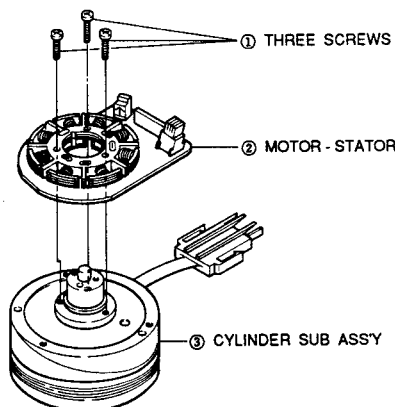

Fig. 17 Motor Stator Removal
- 1) Reinstall the motor stator ① toward the FPC cable of cylinder sub ass'y ②.
- 2) Secure with three(3) screws. (Refer to Fig. 17)